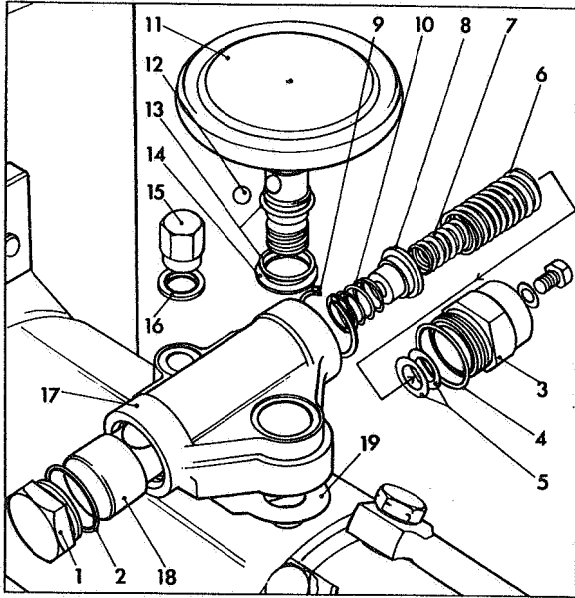

Fig 71 Dismantling auto advance device
Invert fixture in vice as shown in Fig 71. Remove piston plug (1), piston plug seal (2), piston spring cap (3), seal (4), shim washers (5) and outer piston spring (6). Remove inner piston spring (7), spring plate (8), housing circlip (9) and short piston spring (10).